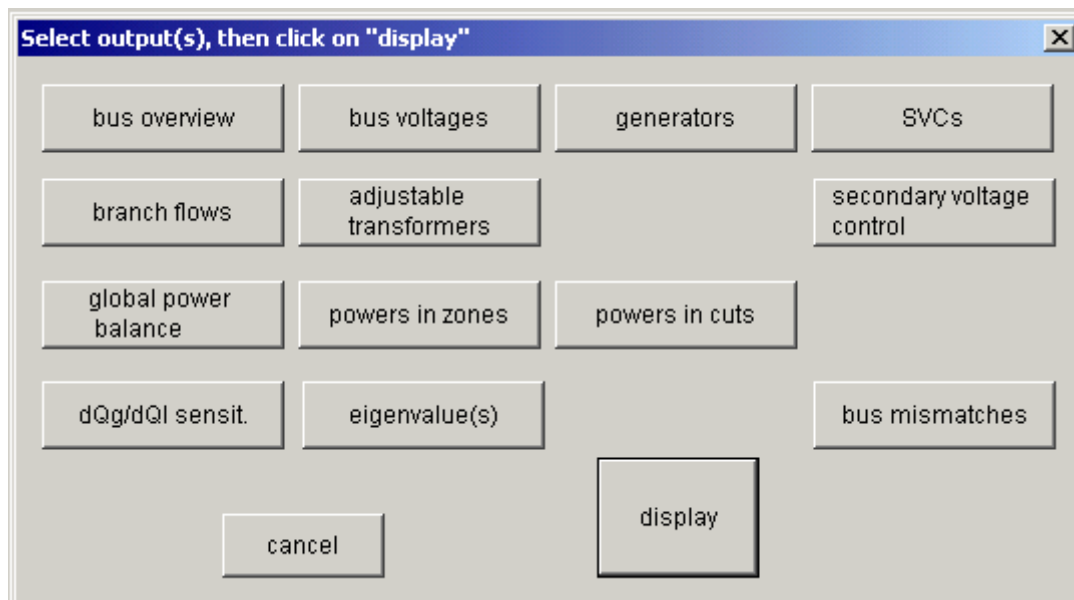

Figure 3. Output selection dialog box
- **show listing** : gives access to various outputs. The output selection box shown in Fig. 3 pops up.